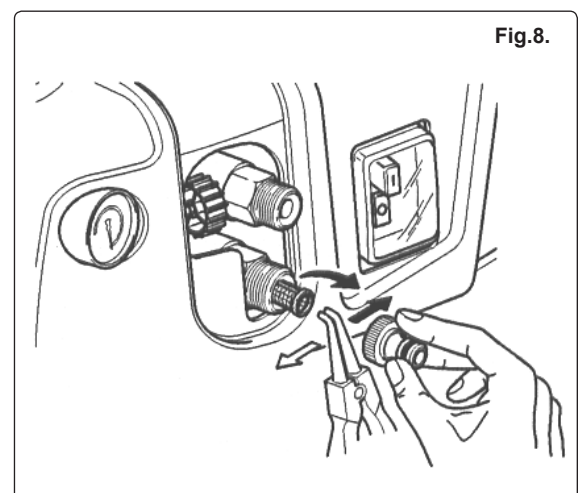

Fig.8.
- 5.4 Check and clean the suction and detergent filters after every 50 hours of operation, fig.8.